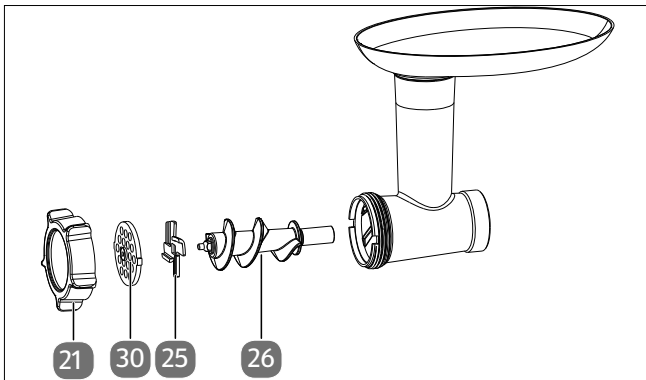

Fig. 12 – Mincer accessory parts
- ▶ Assemble the mincer with the accessories in the order shown above (see Fig. 12).